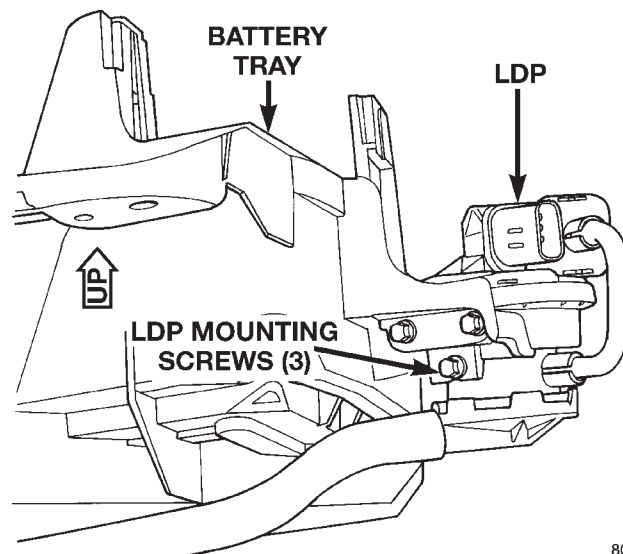

Fig. 19 Leak Detection Pump (LDP) Mounting Screws
- (7) Remove battery tray. Refer to Group 8A, Battery for procedures.
- (8) Carefully remove vapor/vacuum lines at LDP.
- (9) Disconnect electrical connector at LDP.
- (10) Remove 3 LDP mounting screws (Fig. 19) and remove LDP from vehicle.